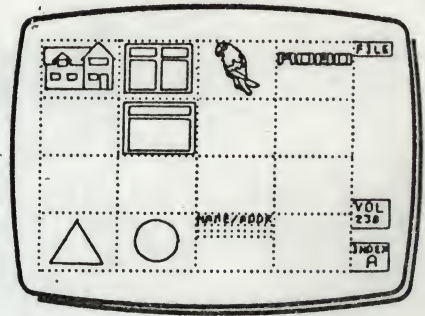

Fig 4
- 7 FILE the modified drawing in an empty library location (Fig 4).